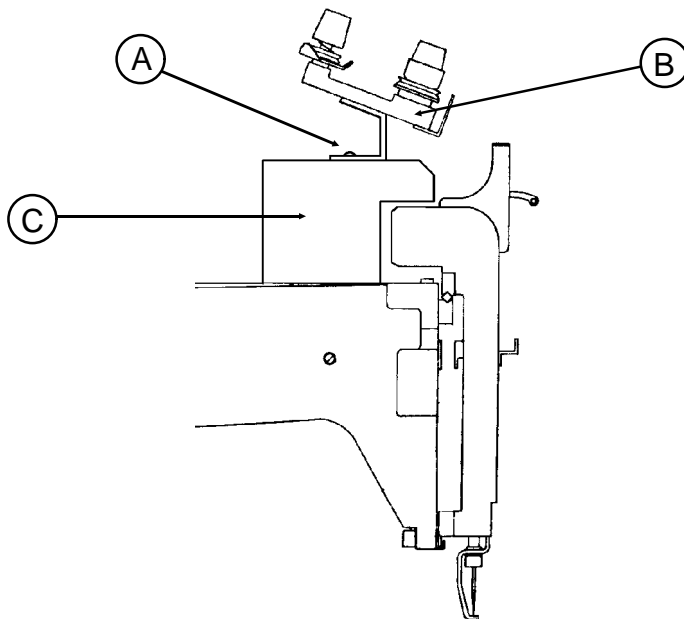

Figure 1
3. Remove the two retaining screws (Figure 1-A) holding the Tensioner Assembly (Figure 1-B) to the Color Change Cover (Figure 1-C).